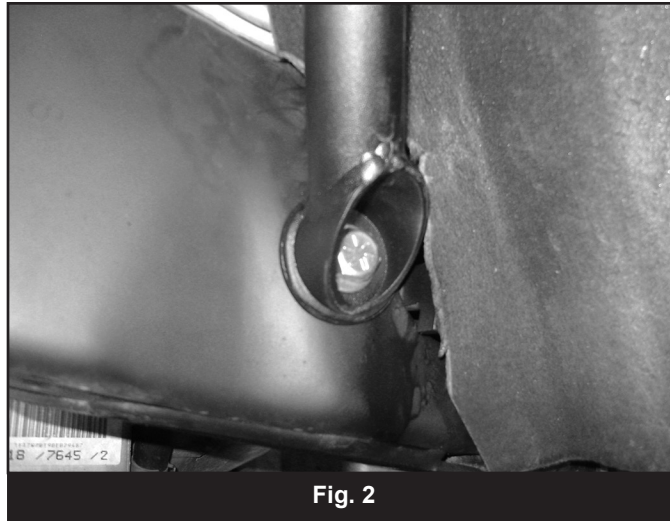

Fig. 2
8. Attach hoop with 3/4" bolt through the original upper shock mount to hold it in place. Mark hole centers for the end tubes. (Fig 1, Fig 2)